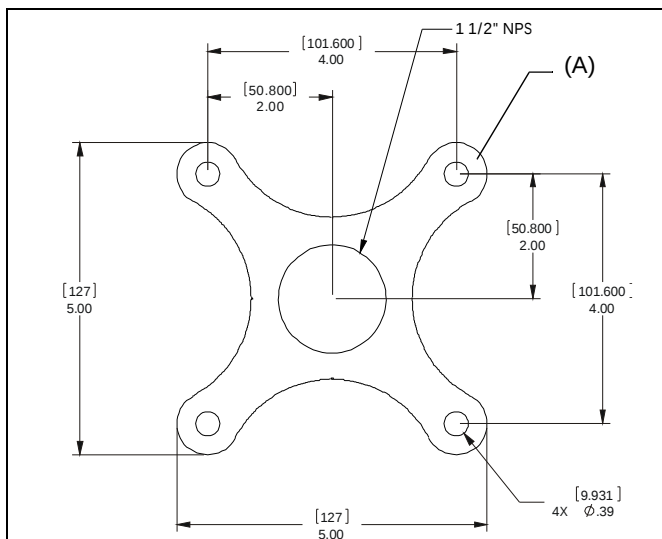

Figure 1
1. Using the ceiling plate (A) as a template, mark mounting locations and drill 1/4" pilot holes at marked locations.
2. Use 3/8" x 3" (minimum) Grade 2 lag screws (not provided) to secure ceiling plate (A) to the joists or wood framework, using the bolt holes noted. (See Figure 1) for dimension details.